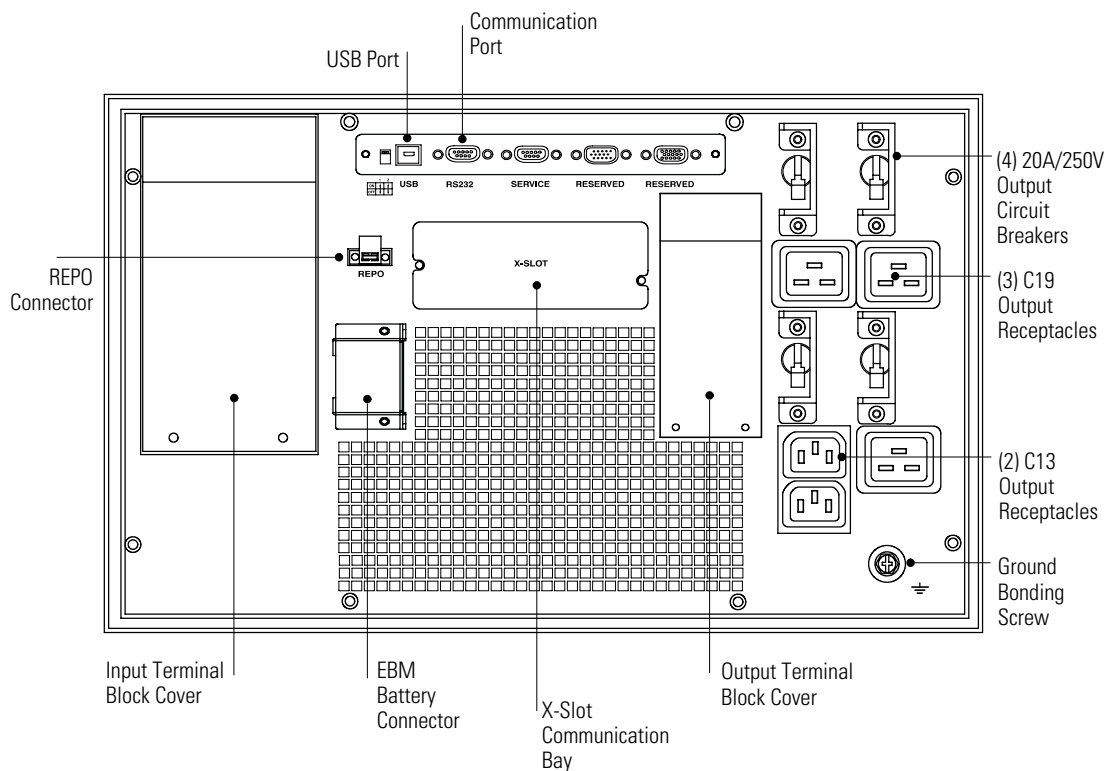

Figure 28. Hardwired UPS Rear Panel
1. Verify that all circuit breakers are in the OFF (O) position.
4. Remove the input and output terminal block covers and retain (see Figure 28).
14. If your rack has conductors for grounding or bonding of ungrounded metal parts, connect the ground cable (not included) to the ground bonding screw. See Figure 28 on page 54 for the location of the ground bonding screw.
15. Plug the equipment to be protected into the UPS output receptacles, but do not turn on the protected equipment (see Figure 28 on page 54).